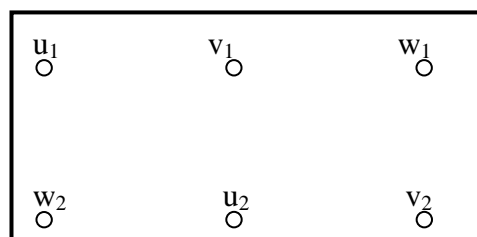

FIGURE 10.1: TERMINAL BOX OF A THREE-PHASE INDUCTION MOTOR
- 10.1.4 Use the exact lay-out in FIGURE 10.1, redraw the figure and draw in the windings, and then draw the windings connected in star. (3)